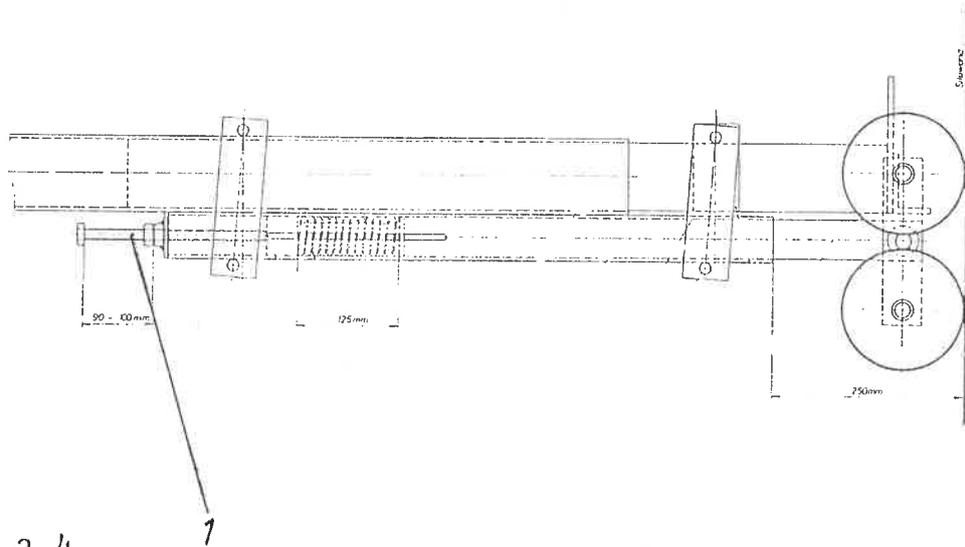

Fig. 2.4
- 2.2. Relax the pressure on supporting wheels (Fig. 2.4) by screwing out the extending spindles (Fig. 2.4/1) for approximately 2 cm.